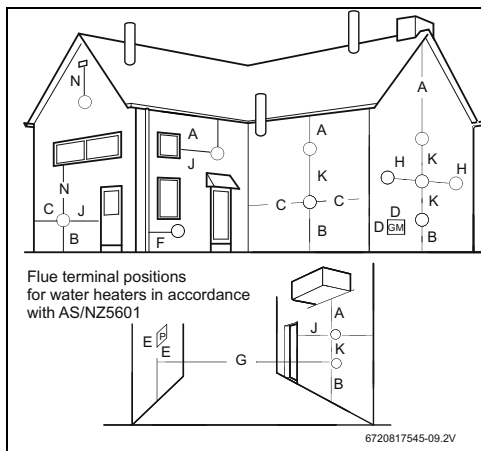

Fig. 5 Minimum flue clearances (use as a guide only, always AS/NZS5601 ).
- Comply with the minimum installation clearances indicated in Fig. 5 and Table 6.
- Install the appliance in accordance with the minimum installation clearances indicated in Fig. 5 and Table 6, according to AS/NZS5601